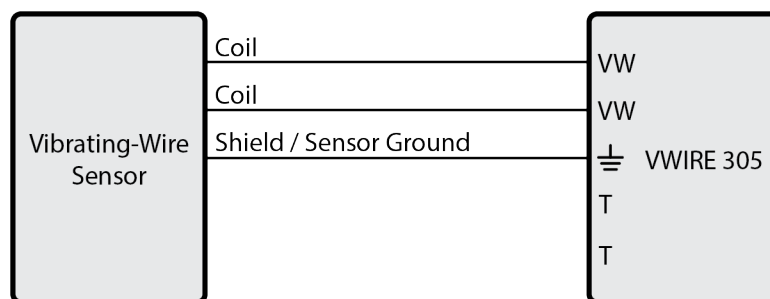
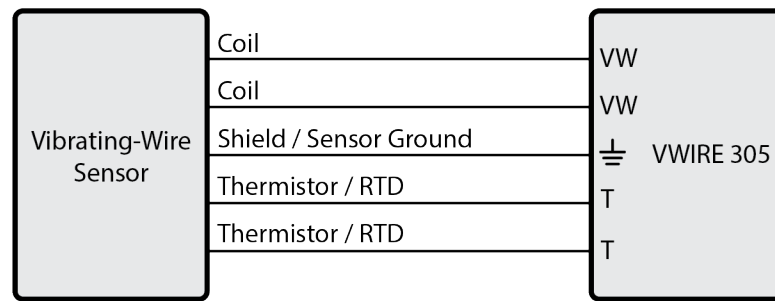

FIGURE 4-2. Three-wire sensor connection schematic (no embedded thermistor)
FIGURE 4-3. Five-wire sensor connection schematic
2. Connect the sensors to the VWIRE 305 (FIGURE 4-2 (p. 3) and FIGURE 4-3 (p. 4)). For further guidance on connecting sensors, see Sensor connections (p. 30).